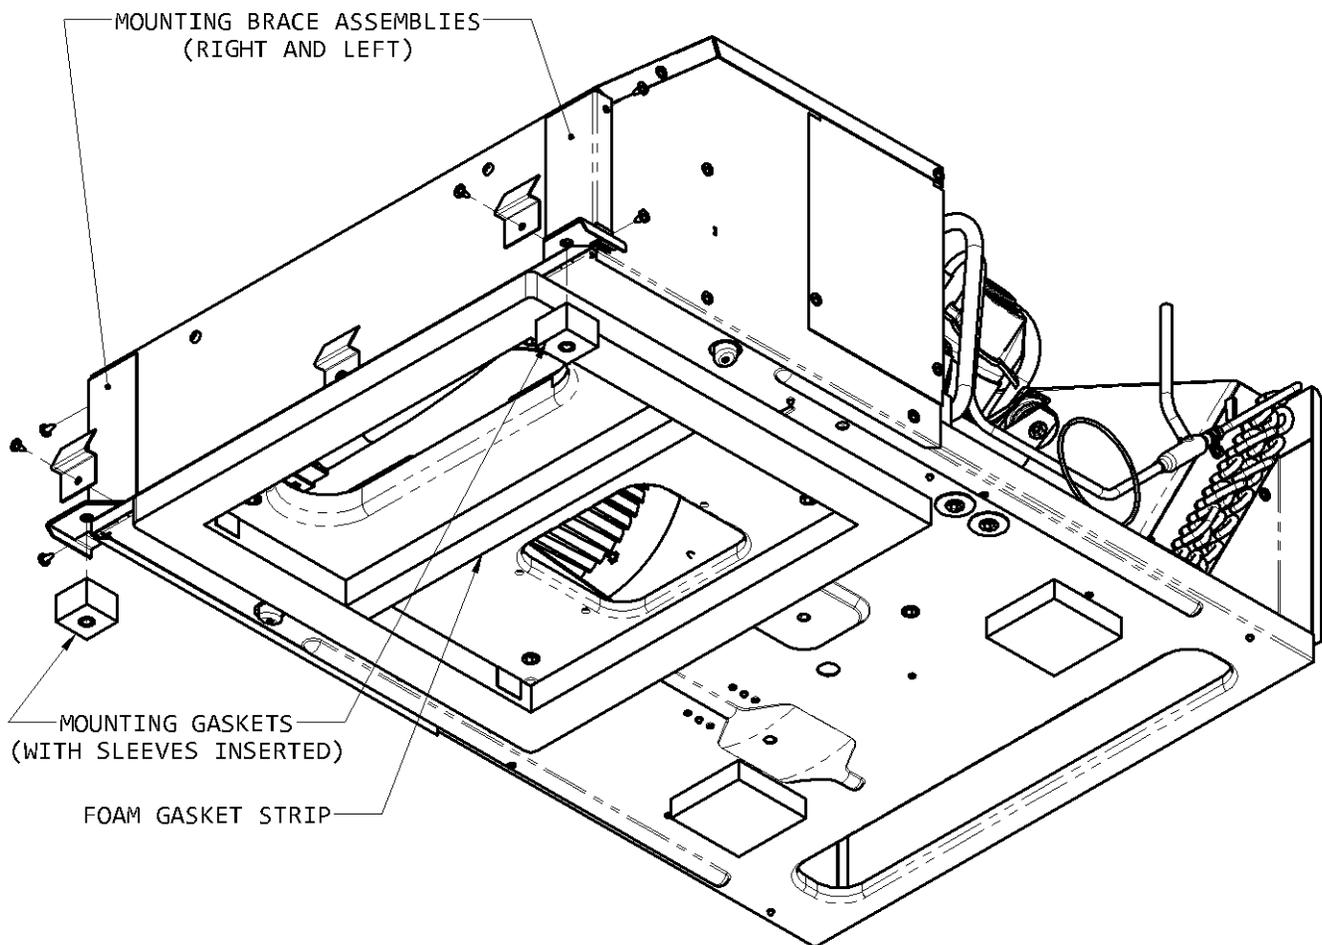

FIGURE 1
2. At each of the front corners of the roof top unit, remove the 2 screws along the side and 1 screw & clip in the lower-front as shown in Figure 1. Re-use these components to attach the 2 mounting brace assemblies. See Figure 1.
3. Insert a nylon sleeve into each of the mounting gaskets and apply them to the bottom of the mounting braces as shown in Figure 1.
4. If needed, install foam gasket strip to bottom of unit basepan (as shown in Figure 1) or to top of roof structure to separate supply and return air ductwork.